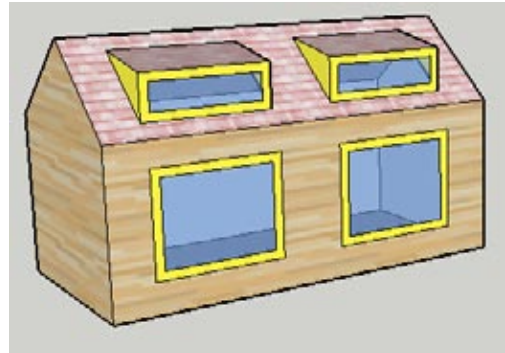

Figure 5-22
- Copy the entire dormer to the right, so that it sits above the other window (Figure 5-22). For the move points, use similar reference points on the windows below.